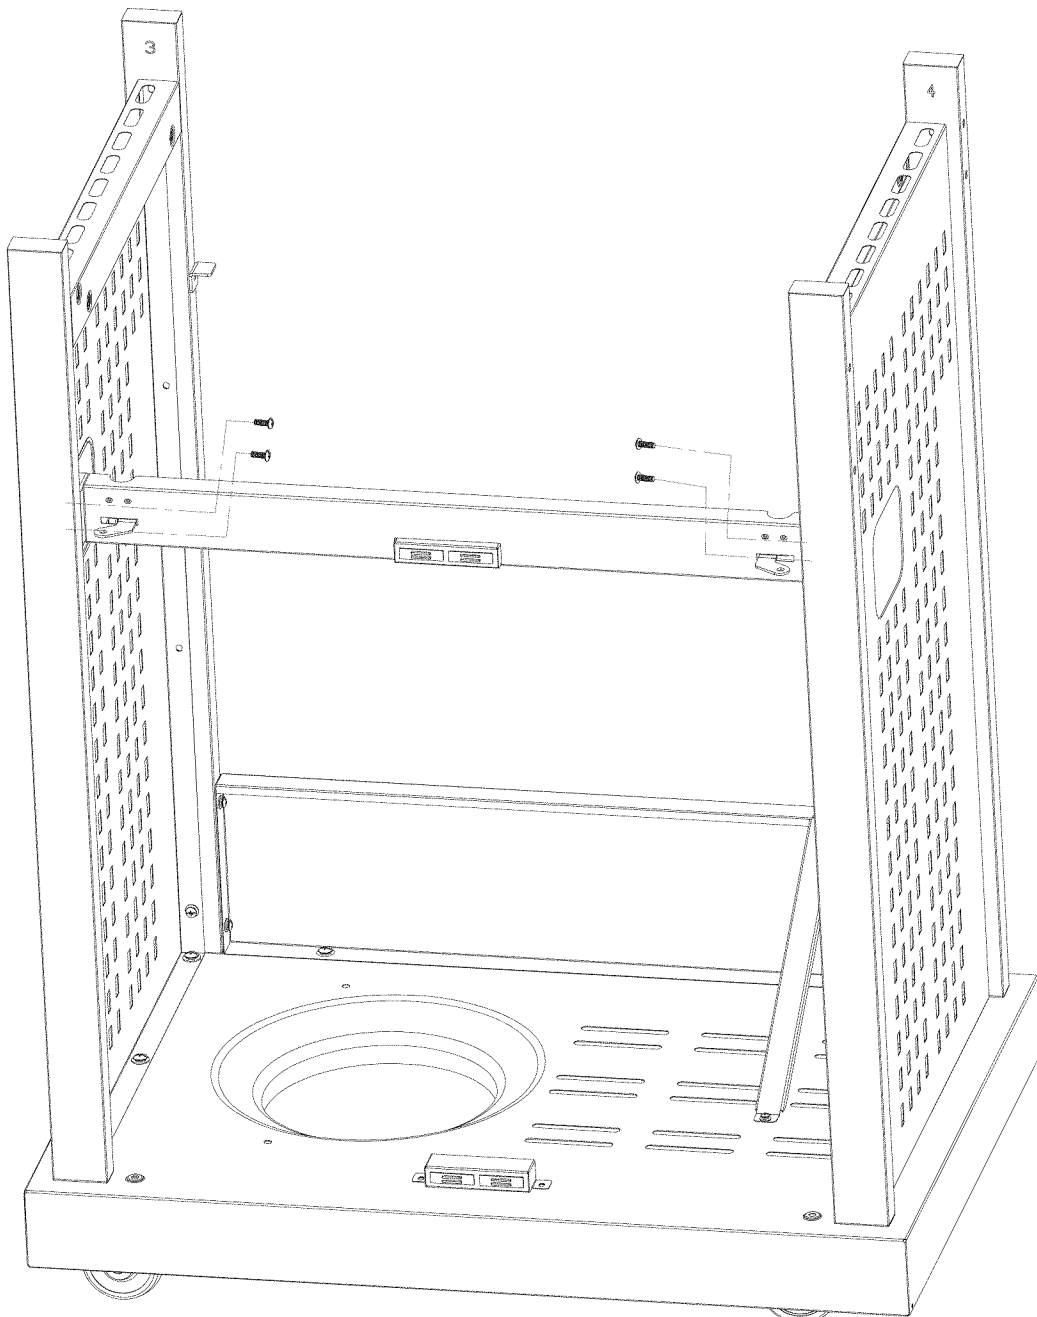

Fig. 6
1. Align door bracket holes with holes on front legs. Attach bracket to the front legs with four (4) M5 x 15 screws as shown in **Fig. 6**.